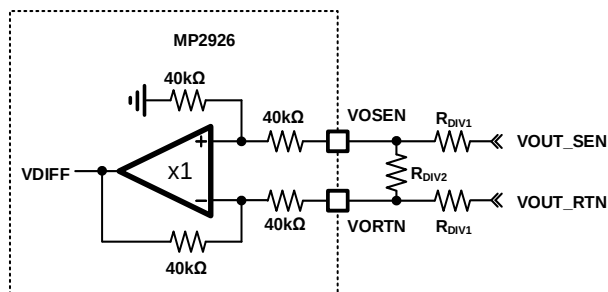

Figure 7: Output Divider Connections when Remote Sense Is Applied
When $V_{OUT} > 3V$, the output voltage must be divided by the reference voltage within 1.55V. Figure 7 shows the typical connections for the remote sense when V_{OUT} exceeds 3V.
V_{OUT_SEN} and V_{OUT_SENN} are from the load, and must be routed as a differential pair on quiet areas. Calculate the voltage divider ratio in Figure 7 with Equation (2):